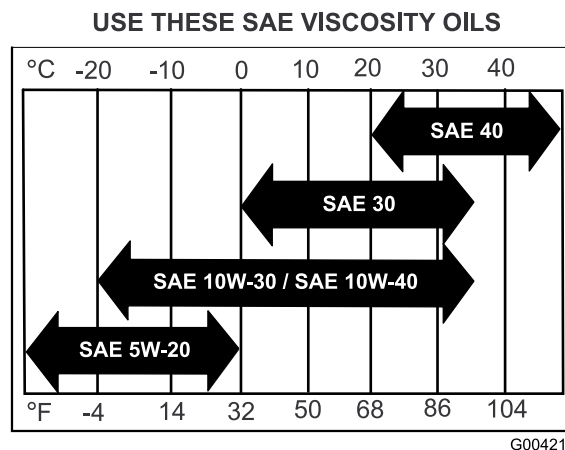

Figure 28
4. Fill the crankcase with the specified type of new oil; refer to Figure 28.